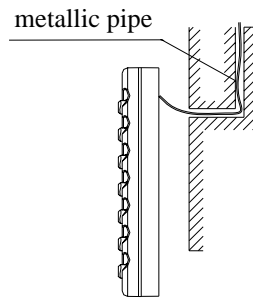

Figure 44 Concealed mounting of Cable
3. If the control wire between the wire controller and the indoor unit is surface-mounted, use 1# metallic pipe and make matching recess in the wall (refer to Figure 43; If concealed installation is adopted, 1# metallic pipe can be used (Refer to Figure 44).